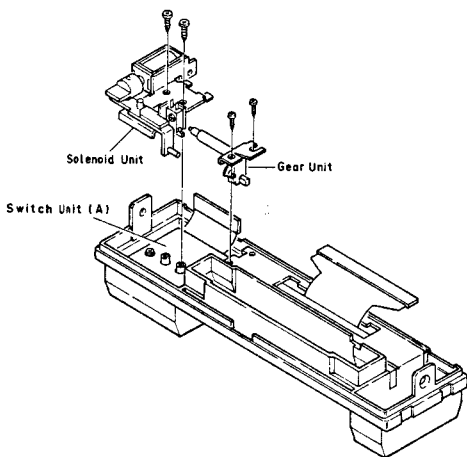

Fig. 11
1. Undo 2 screws to remove the solenoid unit (Fig. 11).
2. Undo 2 screws to remove the gear unit (Fig. 11).